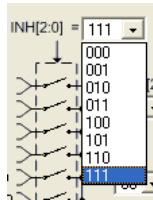

Figure 36
- Monitor EQU defined Register or RAM, click the right key of mouse to select add-in monitored Register or RAM as Figure 36 described.